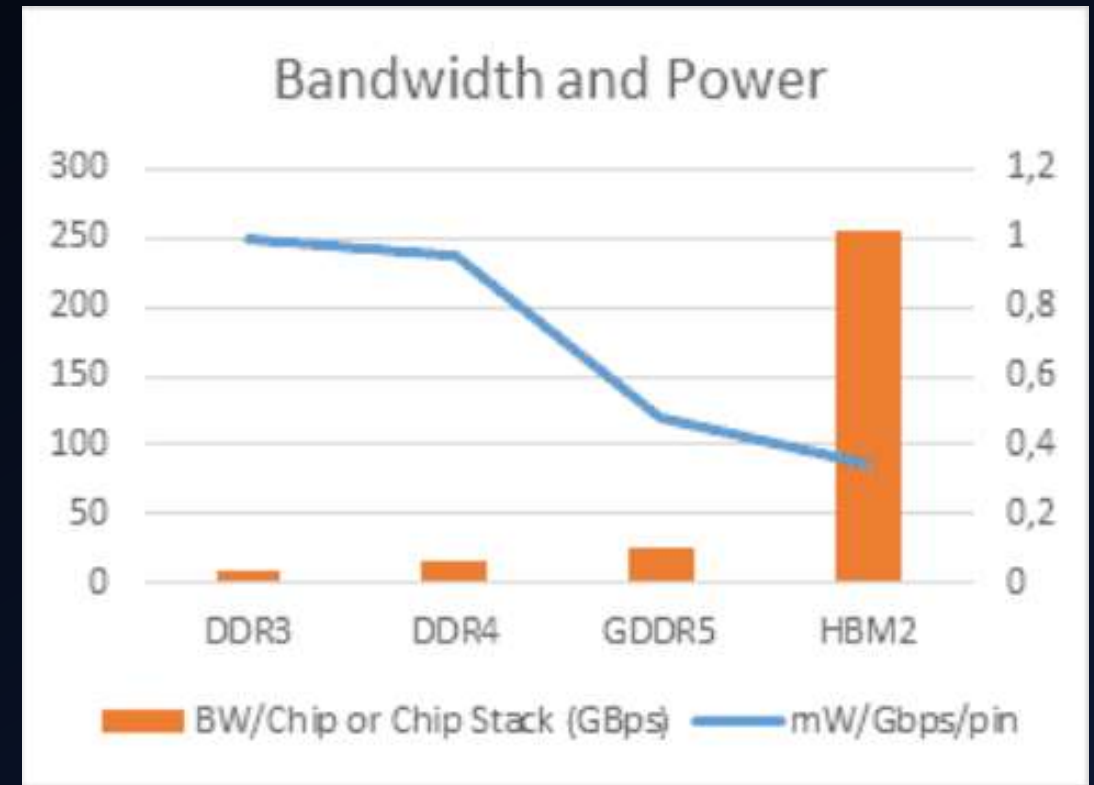

Figure 8 Memory products showcasing increase bandwidth with decrease in power consumption ^[16]
- From the older DDR3 to the newer HBM2, there's a significant increase in performance for both signal performance and power consumption as shown in Figure 8.
- Note: The right-side y-axis in Figure 8 is supposed to have a decimal, not a comma.